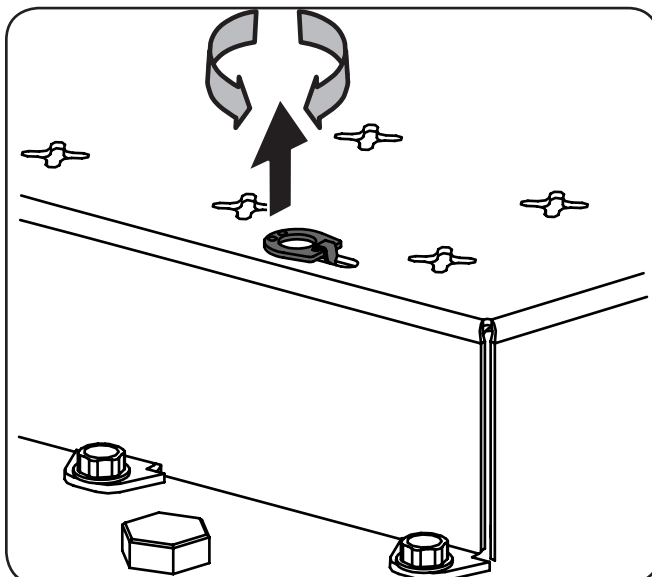

Figure 7-6
3. Pull the four latches up and rotate 1/4 turn to line up with the slots in the deck covers and remove both covers. See Figure 7-6.